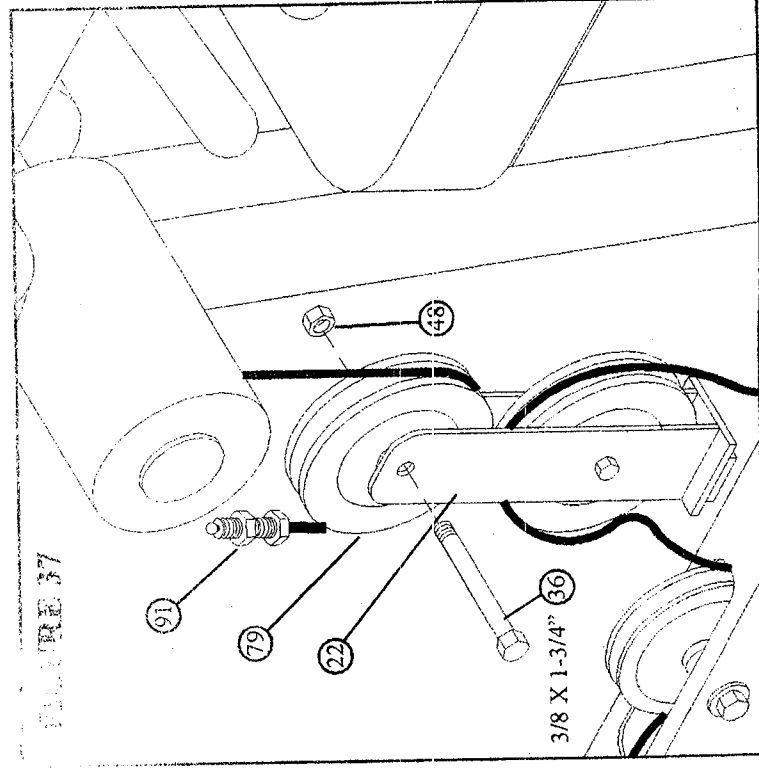

FIGURE 37
Route threaded end of AB CABLE (91) around 3-1/2" PULLEY (79) while assembling one 3-1/2" PULLEY (79) to the lower FLOATING PULLEY BRACKET (22) using one 3/8 X 1-3/4" BOLT (36) and one 3/8" LOCKNUT (48) as shown in FIGURE 37.